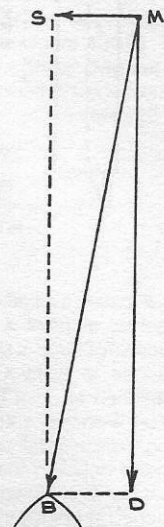
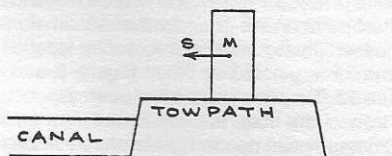

FIG. 6
FIG. 8
**Counter-tension force** (see Figure 6, MB)
If the towpath surface had been tilted slightly, so that it sloped away from the canal, that slope would have forced the mule (and people standing on the towpath) to lean slightly away from the canal. That reflex leaning would subject the mule to the action of the force of gravity, which would tend to topple the mule away from the canal, and so cancel, to some extent, the toppling force (Figure 6, force MS) that tended to topple the mule into the canal.
One of the components of the drag force is the force MS, indicated in Figure 6, and here labeled "toppling force." That toppling force pulls the mule sideways, toward the canal, and tends to topple the mule into the water, as indicated in Figure 8.
The last item that needs to be addressed is the question of where to attach the towrope to the boat. In practice, the towrope was attached to the highest point on the boat, for the reason already discussed (immobilization force). The location of that point is marked as X on Figure 8 and on Figure 13. The rope could have been attached to the bow of the boat, at point B, but then a mast would have been needed to elevate the fastening and so raise the towrope into a horizontal position. Rather than encumber the design and construction of the boat with an appurtenance that improved performance of mule and boat only slightly, the designers provided for the towrope to be attached to a strong structural element that was already built into the boat—the frame of the fore cabin.